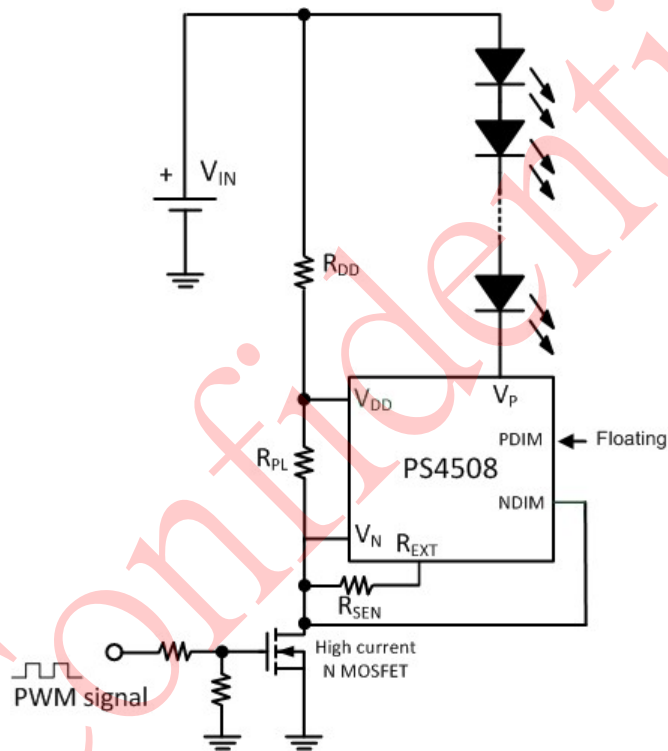
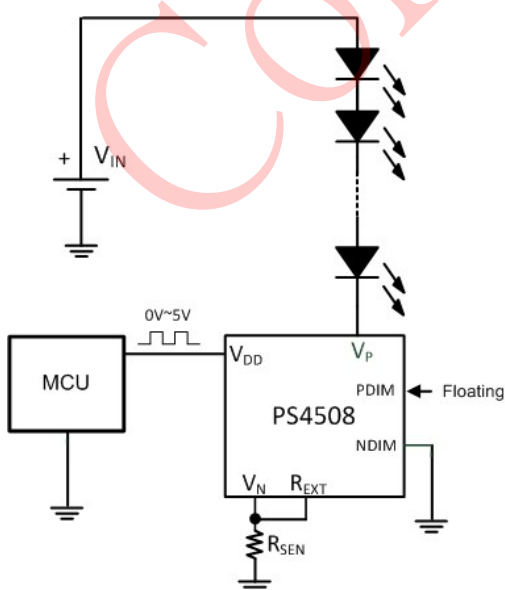
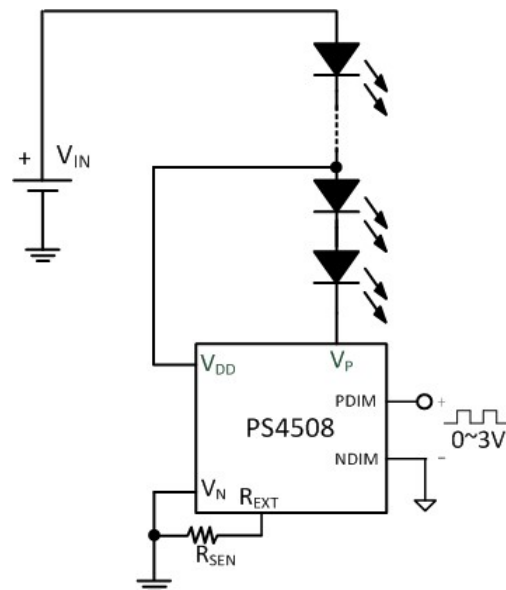

Figure 8. PWM dimming by external MOSFET
Figure 12. PWM dimming by MCU
Figure 13. PWM dimming by PDIM and NDIM
Figure 8 is the best PWM dimming application circuit. To achieve LED dimming in an LED driving circuit with the PS4508, you can use a MOSFET to switch the power supply. The brightness is controlled by the duty cycle of a PWM (Pulse Width Modulation) signal. Resistor R_{DD} and R_{PL} act as a voltage divider to generate the proper V_{DD} voltage for PS4508 and discharge the residual charge on power line while the switch MOSFET is off. To discharge the residual charge is important because it will cause instability in dimming control, resulting in flickering or inconsistent brightness. The duty cycle of the PWM signal is defined as the ratio of the LED on time (T_{ON}) to the entire cycle time (T). The duty cycle of the PWM signal is shown in Figure 9. Figure 10 shows the current accuracy with different duty cycle.
Figure 11 shows the self-bias dimming circuit. The advantage is no need of resistor for PS4508 biasing. In many compact LED applications this will mostly reduce the procedure of production. The disadvantage is the PWM dimming frequency should be lower. It is suggested the frequency should be lower than 1KHz to get better dimming control. Both switch N MOSFETs in Figure 8 and Figure 11 are to switch the total power of LED loads, so it should have lower R_{DS} resistance and larger power dissipation capability to minimize the power lost and heat generation. If a simpler PWM dimming method is used, the MCU can send a PWM signal (0~5V) through the GPIO pin to control the VDD ON-OFF time to achieve dimming purposes (Figure 12). Or the dimming function can be realized by sending a differential voltage signal of 0~3V through the PDIM and NDIM pins (see Figure 13).